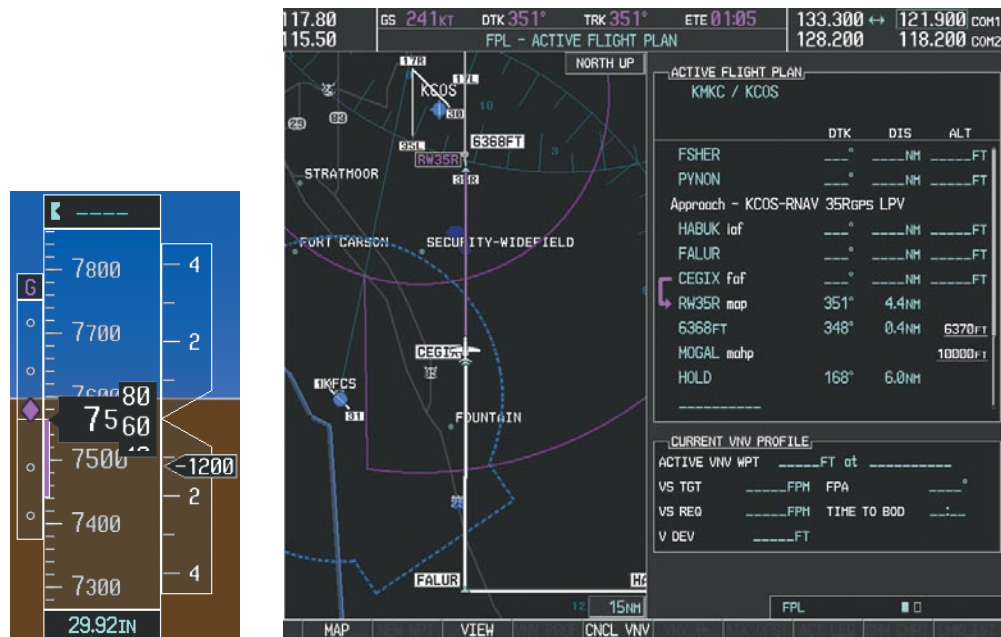

Figure 5-142 Descending to the Missed Approach Point
- 24) After crossing CEGIX, the aircraft continues following the glidepath to maintain the descent to “AT or ABOVE” 6,370 feet at the Missed Approach Point (MAP) (RW35R) as seen in Figure 5-142.